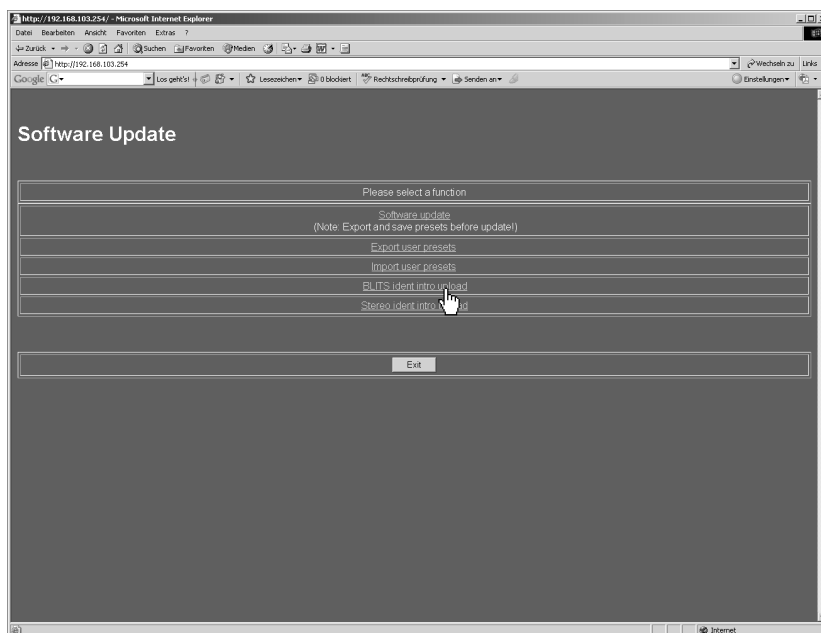
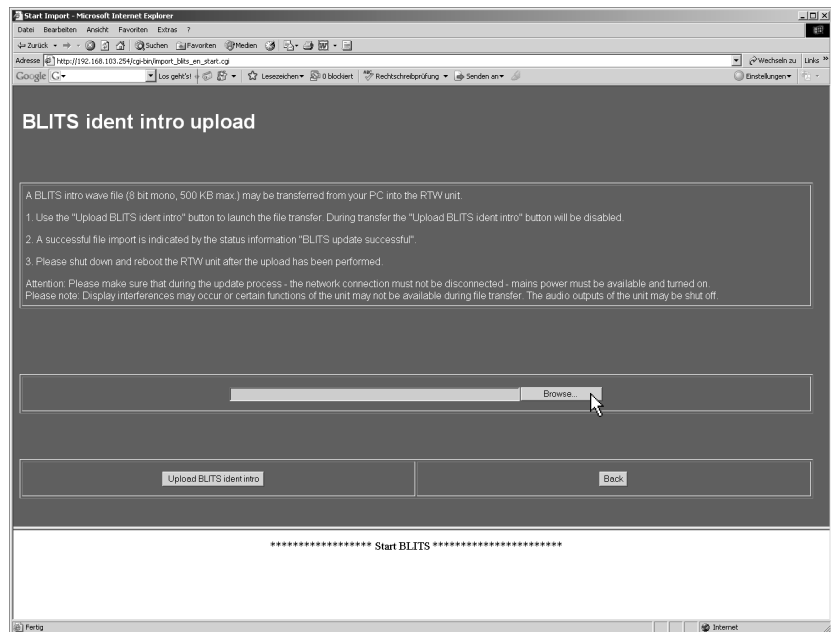
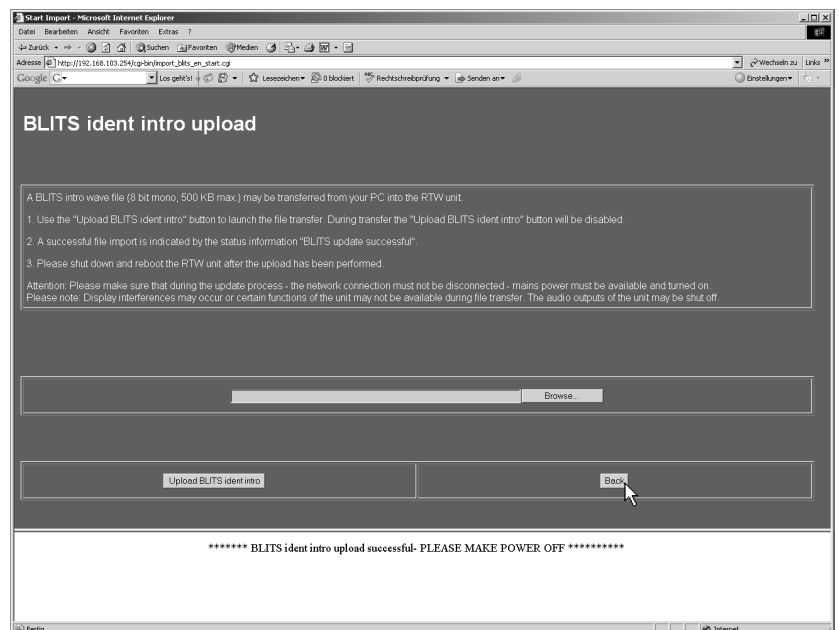

Fig. 8-27: Software Update Program menu in web browser
Fig. 8-28: Display of the BLITS ident intro upload menu page (Browse ...)
Fig. 8-31: End of the BLITS ident intro upload
2. The SurroundControl units should respond with a screen like the one shown in Fig. 8-27. Choose **BLITS ident intro upload**. **Please note the instructions on the BLITS ident intro upload menu page** (see Fig. 8-28).
3. Please click the **Browse ...** button (see Fig. 8-28) to browse for the ident intro wave file.
6. When “BLITS ident intro upload successful – PLEASE MAKE POWER OFF” is displayed the ident intro upload process is finished (see Fig. 8-31). For activating the ident intro wave file the SurroundControl unit has to be restarted.
7. Click the **Back** button (see Fig. 8-31) to get back to the home page (see Fig. 8-27). There please click the **Exit** button to leave the software update program.